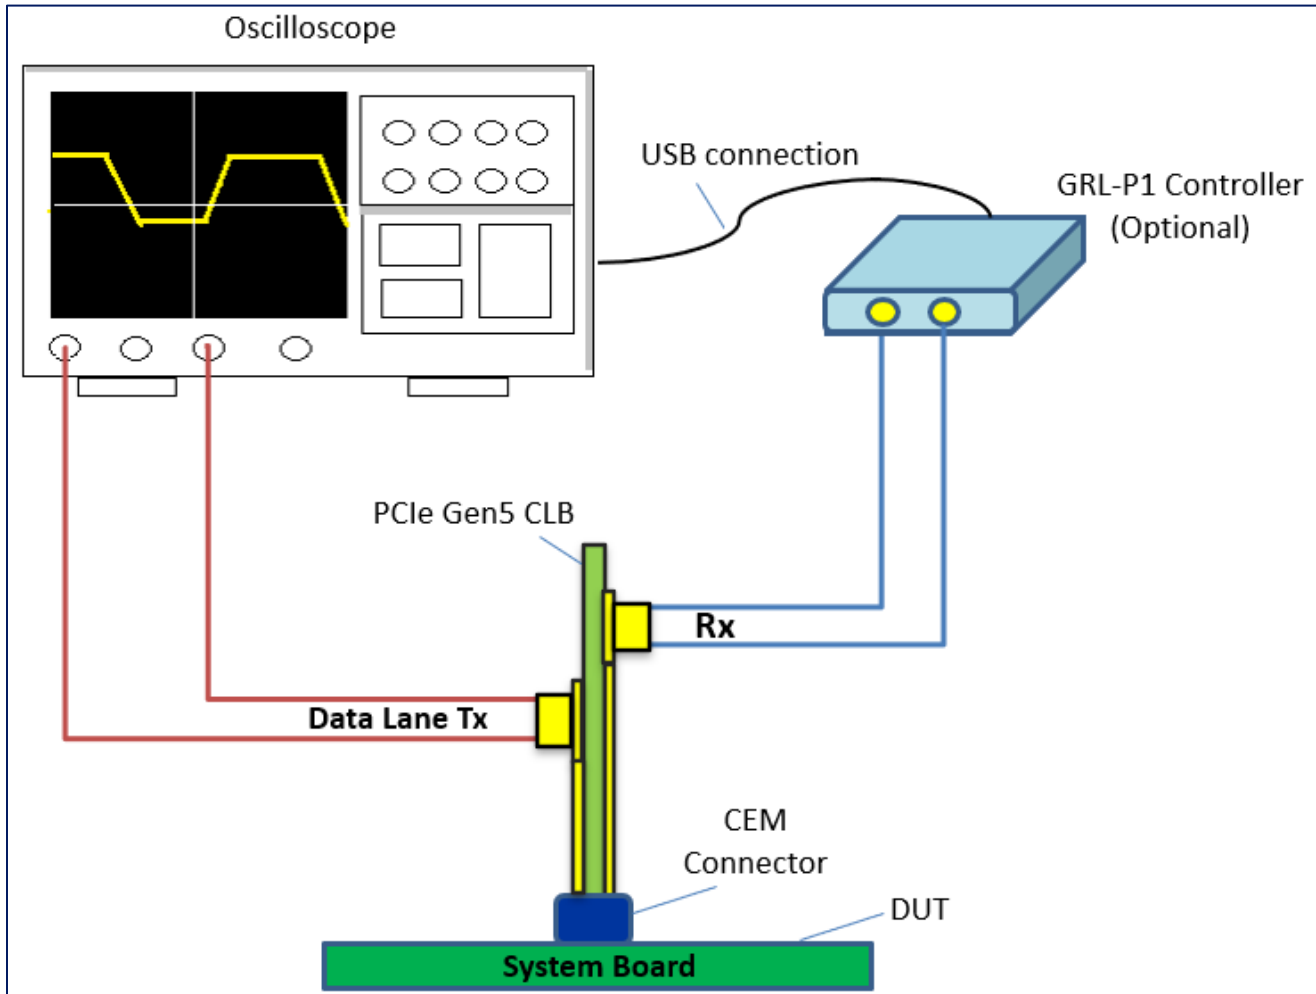

FIGURE 16. CONCEPTUAL PCIe GEN5 SYSTEM BOARD TX TEST SETUP DIAGRAM USING GRL-P1 (WITHOUT RF SWITCH)
1. Using the same connections from Figure 16, connect the Tx+ and Tx- Data Lanes from the CLB to the RF Switch Inputs.